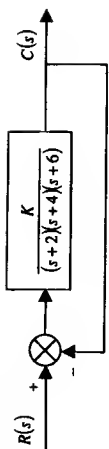

Figure 3
4. For the system shown in Figure 3: